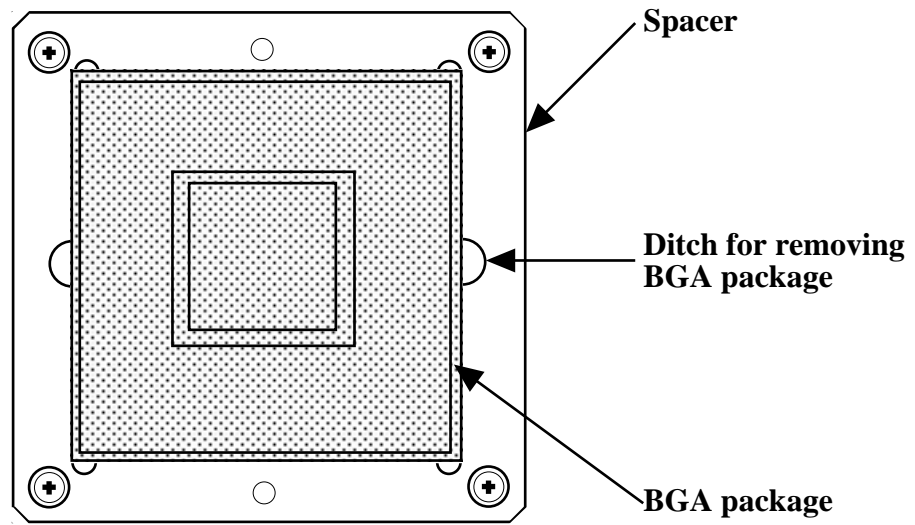

Fig 1. Top view of BGA package and spacer.
- 2. The spacer shown in Fig 1 and 2 on the following page is placed on DSPACK base. Four fixing holes of the spacer and the base should be aligned before tightening screws.**
- 5. When the top cover is removed from DSPACK adapter, hold the adapter base by fingers to protect the base from unscrewing force. To remove BGA package from the adapter, use tweezers by inseting its end into the space provided at the edges of the spacer, then take it away from the adapter. For more details, plesase refer to Fig 1 and 2.**